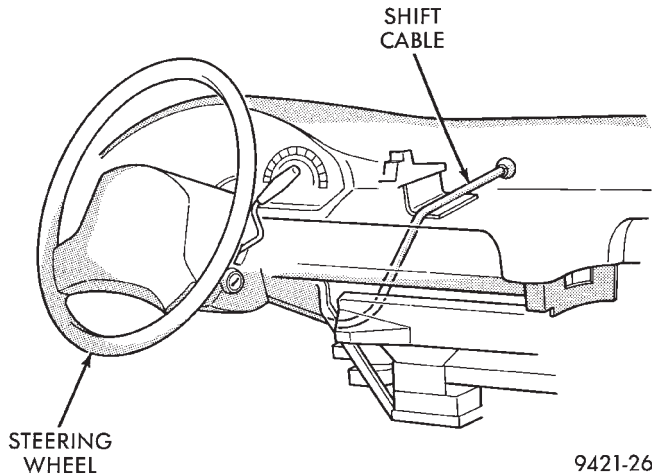

Fig. 23 Shift Cable Routing
(4) Place conduit end fitting in clamp and tighten mounting bolt.
(5) Rotate fill tube to original location. Install and tighten fill tube bracket bolt.
(6) Route transaxle shift cable through hole in dash panel.
(7) Install cable grommet in dash panel.
(8) Route transaxle shift cable along steering column (Fig. 23).
(9) Connect transaxle shift cable to shift cable conduit bracket and secure with new clip.
(10) Attach shift cable (with shift lever in park position) to attaching stud (pin) by snapping into place.